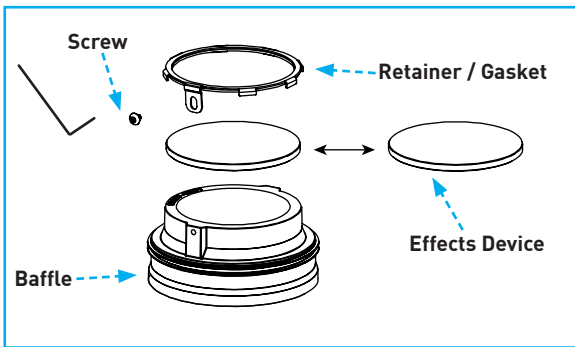

Fig.38
- C. To change lens / film, remove lens retainer and gasket by loosening and removing hex screw with the provided Allen wrench. Insert preferred lens / film in proper orientation, securing with lens retainer / gasket and replacing and tightening screws (Fig.38). Lens is not serviceable on wet rated baffle assemblies.